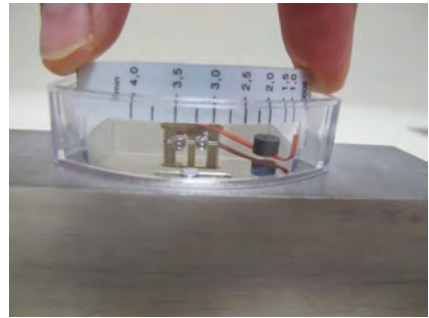

Fig. 60
- 14.** ▶ Insert the scale support (with affixed scale) into the guides in the plastic housing (Fig. 60). Observe direction of flow (lowest scale value toward inlet side of the device).